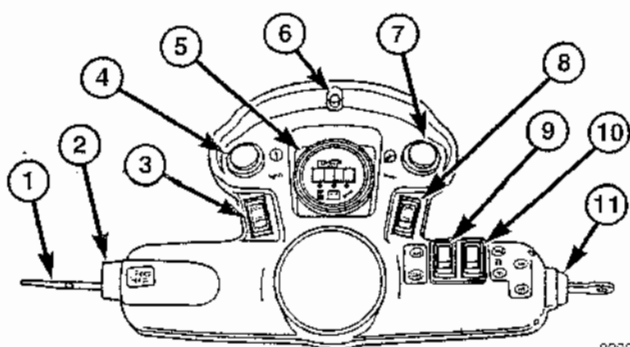

Figure 6 - Instrument Pod
- Parking Brake (see figure 6), has been released,
The purpose of this section is to aid in the isolation of problems with the Drive System and Power System. The primary means of troubleshooting the Drive and Power System is via error codes displayed on the Battery Discharge Indicator (see figure 6 - item 5). If system problems cannot be isolated by use of error codes, refer to the "Drive and Power System Troubleshooting Charts" in this section.